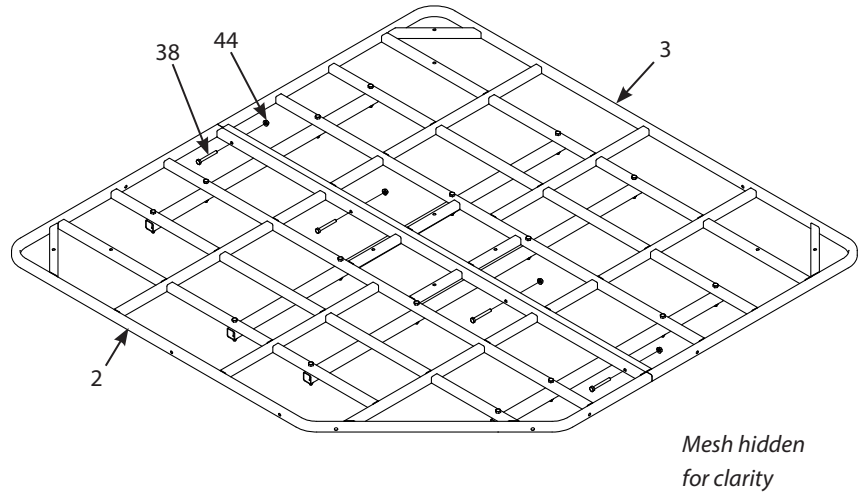

FIGURE 3
- Secure the two platforms (2, 3) together using four 1/4-20 X 2-1/4 IN bolts (38) and 1/4-20 nuts (44). **SEE FIGURE 3.** *Securely tighten all loose hardware at this time.*